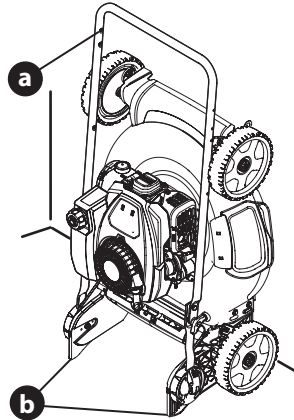

Figure 38
6. Lifting from the handle (a), tilt the mower up onto the rear wheels and back of the handle bracket (b) (Figure 38).